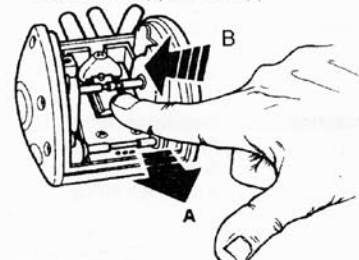

Fig. 2 - Pulizia filtro
- Clean the filter at least once per month by means of compressed air. Replace the filter every 6 months. Recommendations are approximate and must be adopted to the real necessities. (Fig.2)